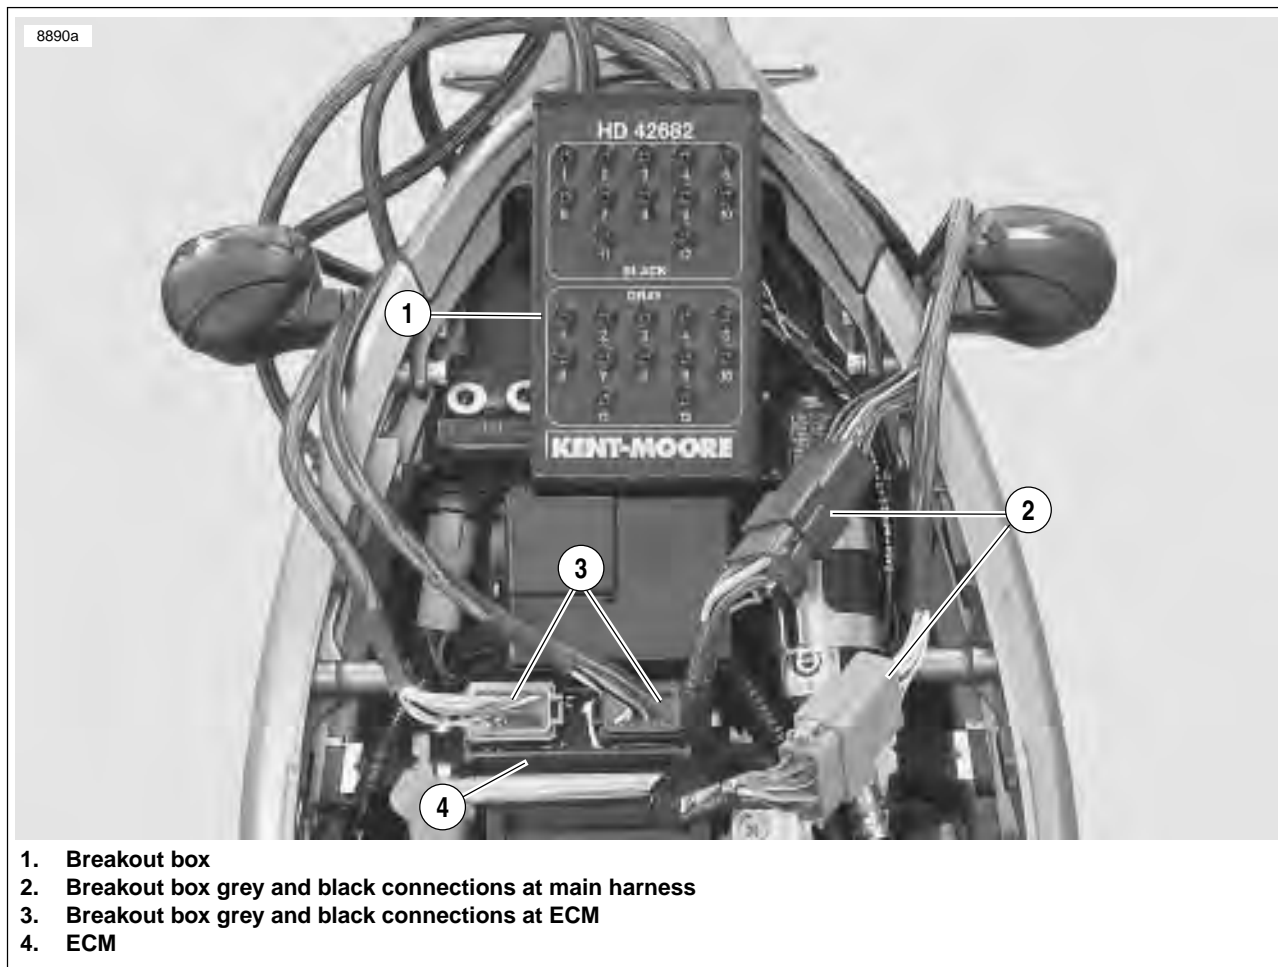

Figure 4-9. ECM and Breakout Box with Connections
- See Figure 4-9. Attach Breakout Box (2) to black connector [10].
- See Figure 4-9. Depress latches on each side of connectors [10] (black) and [11] (gray).